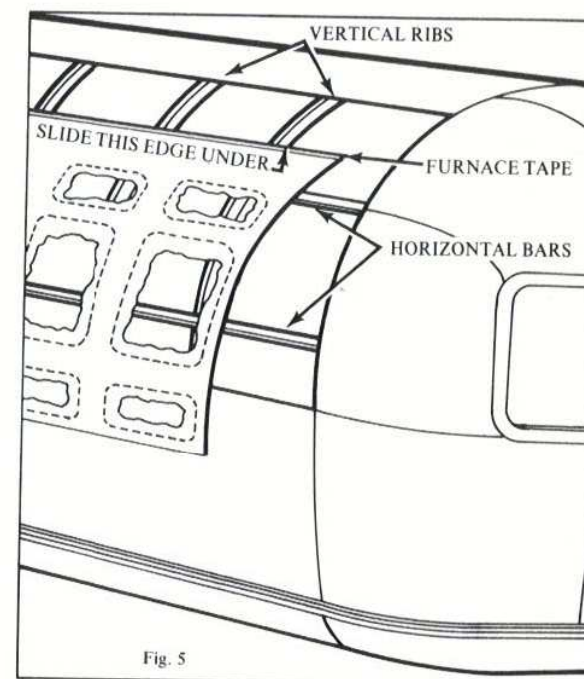

Fig. 5
5. Use a grease marking pencil and mark vertical ribs and horizontal bars on remaining panels (see Fig. 5).
6. Tape top edge on new panel with furnace tape and slide it under the top existing sheet. All overlapped seams should have the top sheet overlapping the bottom. (See Fig. 5.)